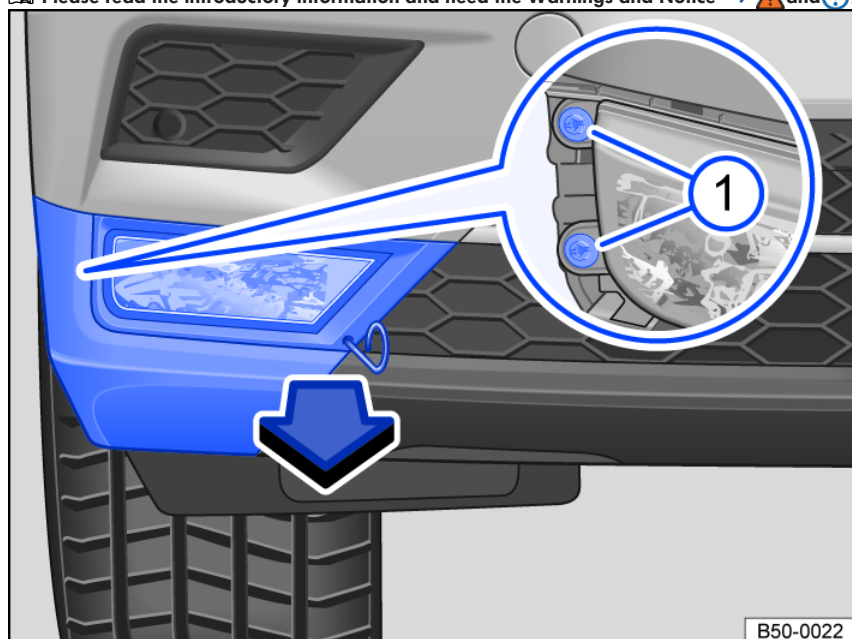

Fig. 174 In the right side of the front bumper: removing the fog lights.
2. Remove the extraction hook from the vehicle tool kit and secure it in the opening in the cover *fig. 174*. Pull the cover forward in the direction of the arrow.
3. Remove the screws *fig. 174* using the screwdriver.
11. Tighten the screws *fig. 174*  using the screwdriver.
12. Insert the cover in the bumper *fig. 174*.